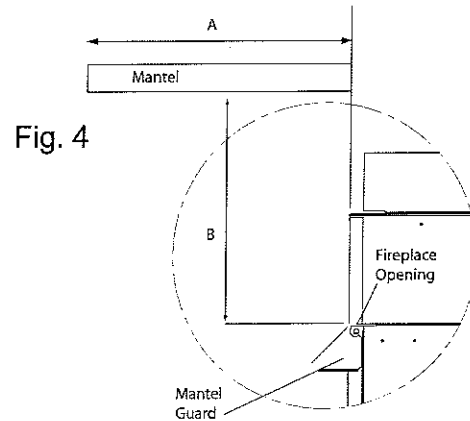

Fig. 4
- b) A heat reducing mantel guard is shipped with the fireplace. Use of this mantel guard is required in order to reduce mantel heights as shown in figure 5. When the mantel guard is installed, a combustible mantel piece may project 2" from the wall at 6" above the fireplace opening. A 6.5" mantel projection at 13" above the fireplace opening and a 10" projection at 22" above the opening. (Fig 4 and 6)
- c) If the fireplace has no mantelpiece, then the heat resistant material must extend upwards a distance of at least 9" from the fireplace opening. (Fig. 4)